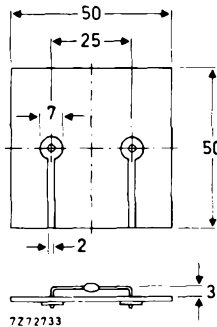

Fig. 2 Mounted on a printed-circuit board.
2. Thermal resistance from junction to ambient when mounted on a 1,5 mm thick epoxy-glass printed-circuit board; Cu-thickness  $\geq 40 \text{ } \mu\text{m}$ ; Fig. 2